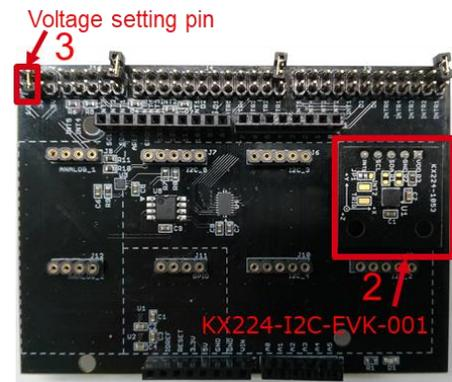

Figure 2. Connection between KX224-I2C-EVK-001 and the SensorShield
2. Connect KX224-I2C-EVK-001 to the socket of I2C area on the SensorShield (Figure 2)
3. Set Voltage of the SensorShield to 1.8V or 3.0V (Figure 2)